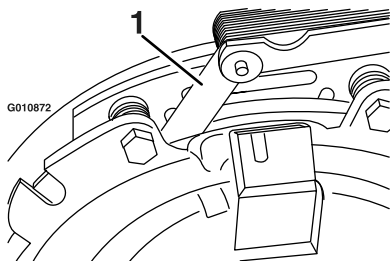

**Figure 70**
- B. Using needle-nose pliers, or by hand, hold the tab and remove the shim (Figure 70).